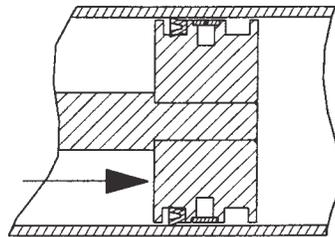

Figure 3
5. Lubricate inside of cylinder tube with grease and insert piston and rod assembly into tube piston end first. *See Figure 3.*